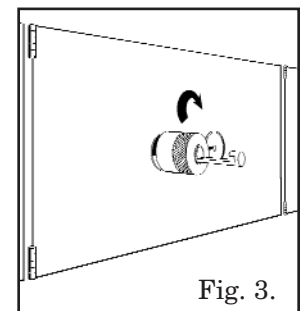

Fig. 3.
3. Tighten the knurled nut to hold hook in place. The flat surface on the outside of the hook unit should be in a level position. See Fig. 3.